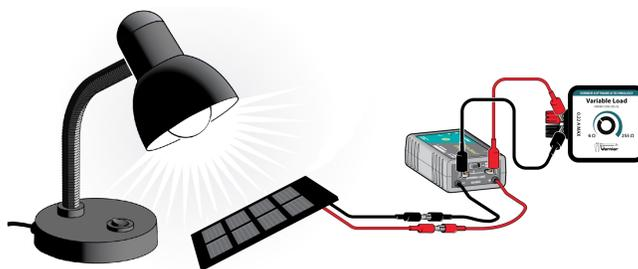

Figure 2
- c. Set up the lamp with the light bulb as shown in Figure 2.